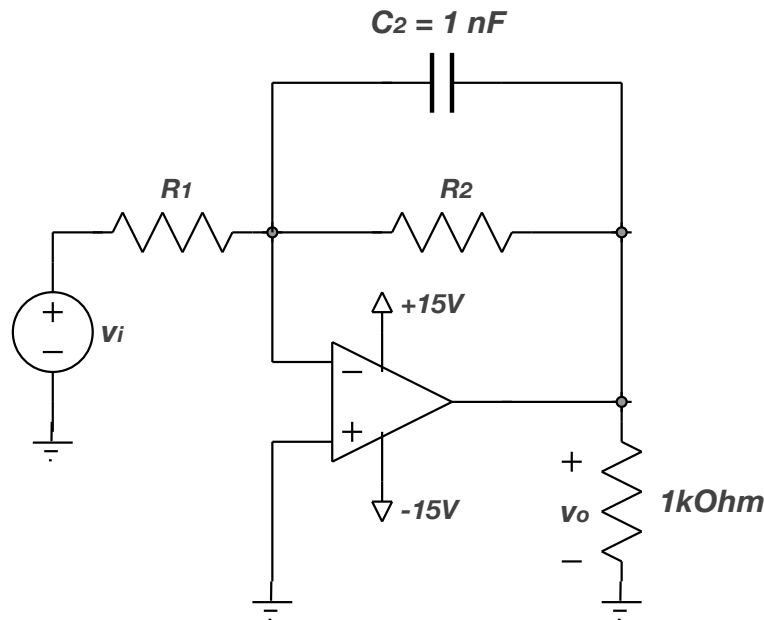

Figure 5. Opamp integrator.
- Construct the integrator featuring the dc gain of -10 V/V, as shown in Fig. 5.